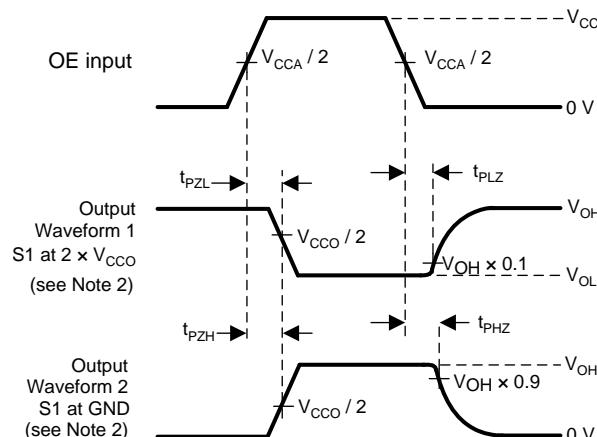

图 9. Enable and Disable Times
2. Waveform 1 in **图 9** is for an output with internal such that the output is high, except when OE is high (see **图 6**). Waveform 2 in **图 9** is for an output with conditions such that the output is low, except when OE is high.